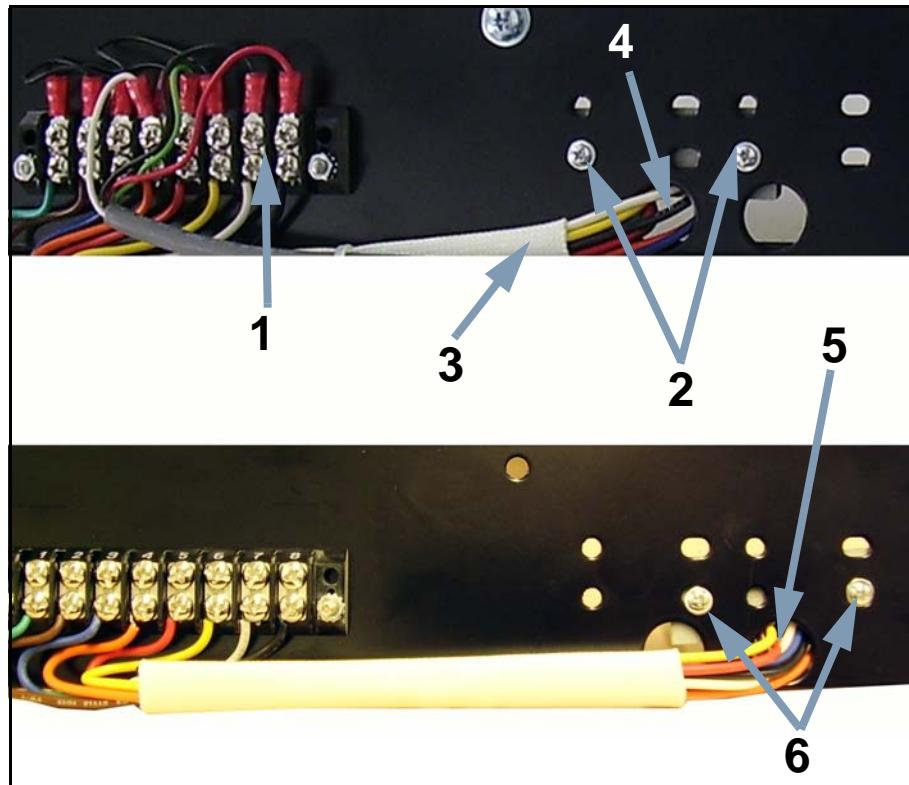

Figure 5-21. Repositioning PBL Connector
- 39** Disconnect all wires from terminal (1 in Figure 5-21).
- 40** Unscrew connector screws (2).
- 41** Pull connector and harness (3) out through hole (4).
- 42** Feed harness through hole (5).
- 43** Mount connector in new position with screws (6).